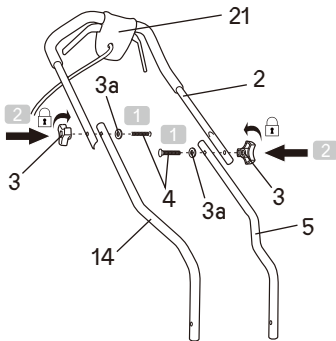

FIG.4
1. Align the upper handlebar (2) to the lower handlebar (5 / 14) and ensure the switch box (21) is pointed downward when viewed from behind.
2. Pass the bolts (4) through the mounting holes of handles (Fig. 4, step 1).
3. Attach the washer (3a) to the bolt (4) and secure the upper handlebar (2) by turning the knob (3) clockwise for tightening (Fig. 4, step 2).